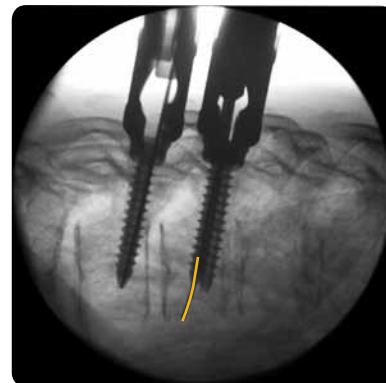

Figure 23
*Unintentional advancement of the Guidewire should be monitored during this step. To avoid this, ensure the direction of the Tap is in the same plane as the Guidewire (**Figure 23**). Cleaning the Guidewires prior to tapping and careful attention to other wire lengths can also help.*